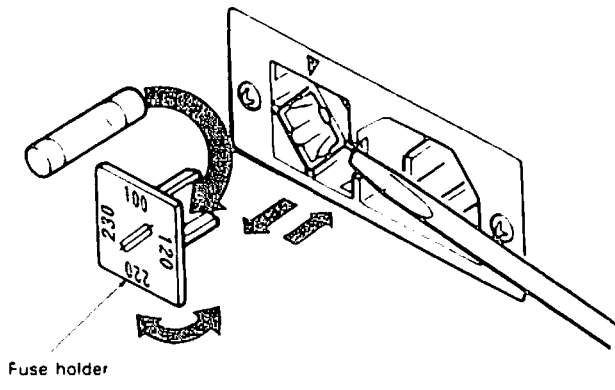

Fig. 9
2. Remove the fuse holder in the rear panel using a standard screwdriver (see Fig. 9).
Remove the fuse holder in the rear panel using a standard screwdriver. Then set the label of your line voltage to the mark ▼ and plug the fuse holder back into place. When changing the supply setting from 100/120V to 220/230V, change the 200mA time lag fuse for a 100mA one. (see Fig. 9).